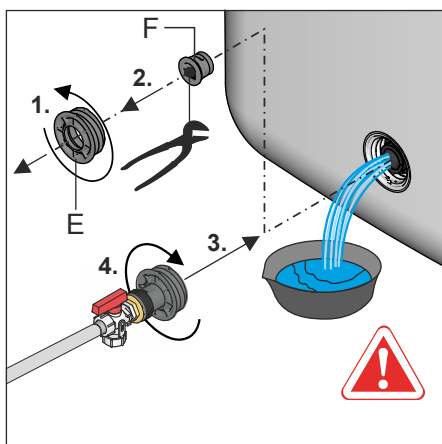

Fig. 8-4 Screwing the combined filling and draining filling connection into the filling and draining connection
- Unscrew the threaded piece on the filling and draining connection (Fig. 8-4, item E), remove the sealing plug (Fig. 8-4, item F) and **immediately screw in** the pre-installed threaded insert with **combined filling and draining filling connection** into the filling and draining connection (Fig. 8-4) again.